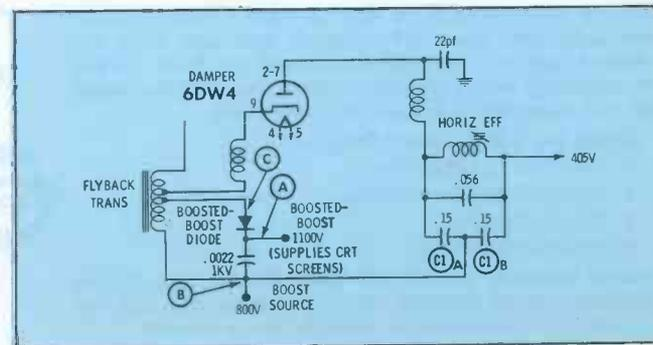

Fig. 1. Rectified positive flyback pulse is added to boost.
**Decision:** High voltage is sufficient to produce normal raster on picture tube; 5KV focus voltage is sufficient. Does horizontal output stage supply other circuits connected with picture tube? Yes, screen grids are supplied by 1100-volt boosted-boost developed in flyback stage (Fig. 1).